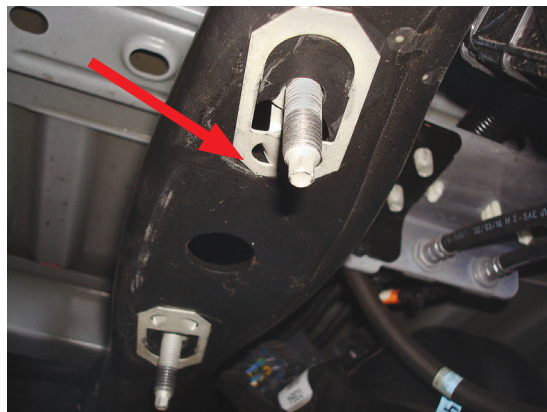

Fig. 4
3. Remove the clip-in studs by prying on the hinged end with a screwdriver. Pull all four – two from each side – out from the frame (Fig. 4).